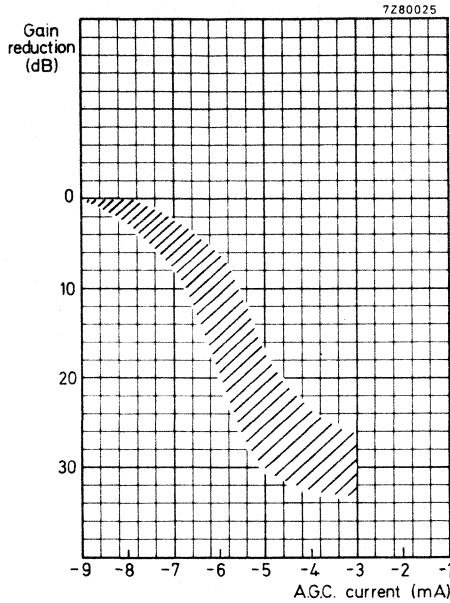

Fig. 5.
**A.G.C. current (Fig. 5)**
| A.G.C. range (Fig. 5)   | min. 26 dB (typ. 31 dB)  |